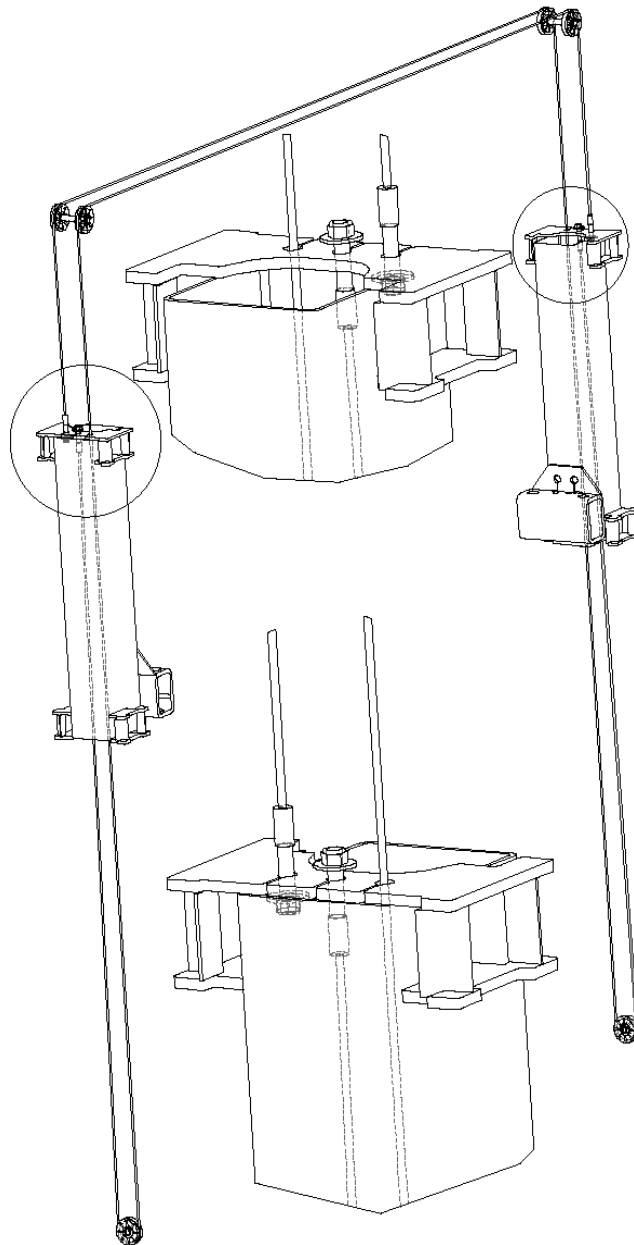

Figure 12
10. Routing carriage equalization cables and offside hose, Figure 12.